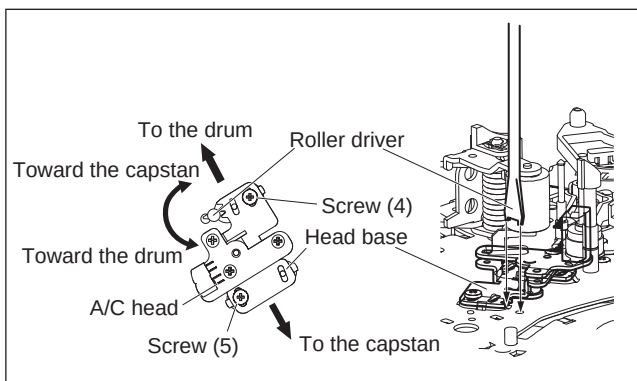

Fig.3-2-4a
- (1) Play back the alignment tape (A1).
- (2) Apply the external trigger signal to D,FF (E), to observe the V.PB FM waveform at the measuring point (D).
- (3) Set the VCR to the manual tracking mode.
- (4) Loosen the screws (4) and (5), then set the Roller driver to the innermost projected part of the A/C head. (See Fig. 3-2-4a.)
- (5) Rotate the roller driver so that the A/C head comes closest to the capstan. From there, move the A/C head back gradually toward the drum until the point where the FM waveform is maximized for the second time, and then tighten the screws (4) and (5) temporarily.
- (6) Play an alignment tape (A2) and set to the manual-tracking mode.
- (7) Fine-adjust A/C head base position to maximize the FM waveform, and then tighten the screws (4) and (5) firmly.
- (8) Play alignment tapes (A1) and (A2) and confirm that the FM waveforms are maximized when the tracking is at the center position.